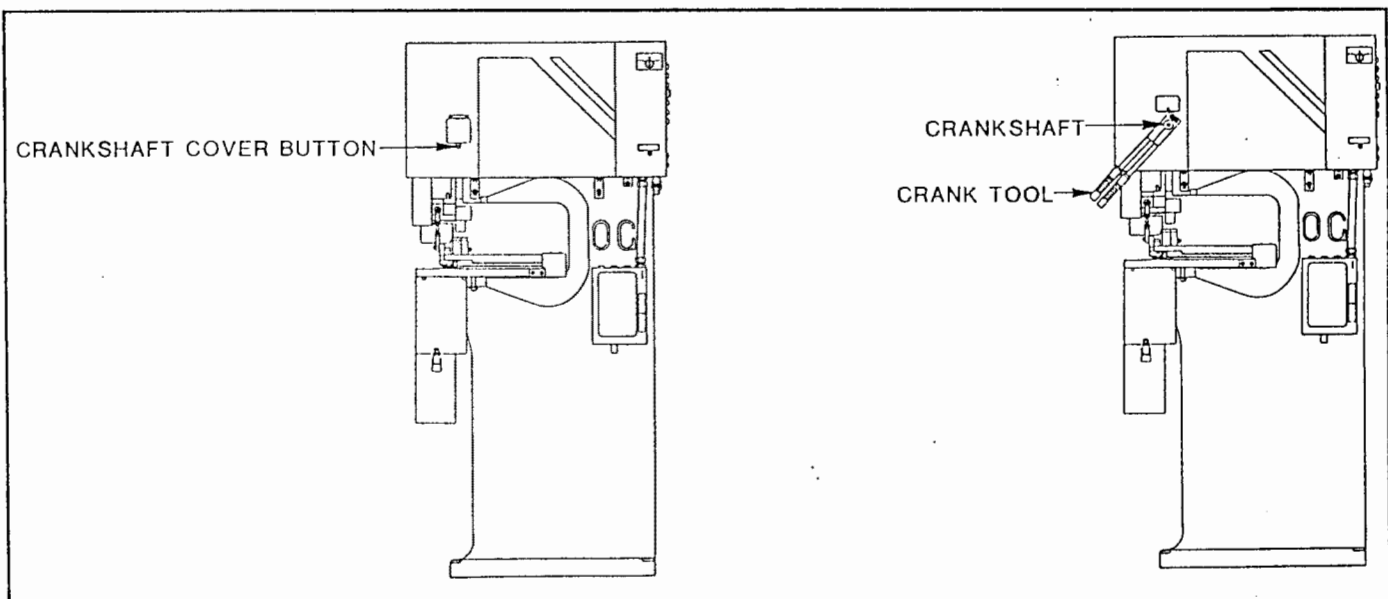

Figure 8.2 B
10. Test for 0 volts DC across TB1 terminal 6 and TB2 terminal 9 (9 is ground) with volt/ohm meter. See Figure 8.2 A. If 0 volts are present, go to step 11. If more than 0 volts are present, replace ram switch according to steps 13-23 of this section.